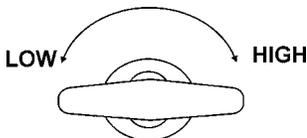

Figure 46. Engine Throttle Control
9. Place the **engine throttle control** in the “LOW” position (Figure 46).
11. Once the engine has started, let it run for 3-5 minutes, then turn the throttle handle control (Figure 46) to the “**HIGH**” position.